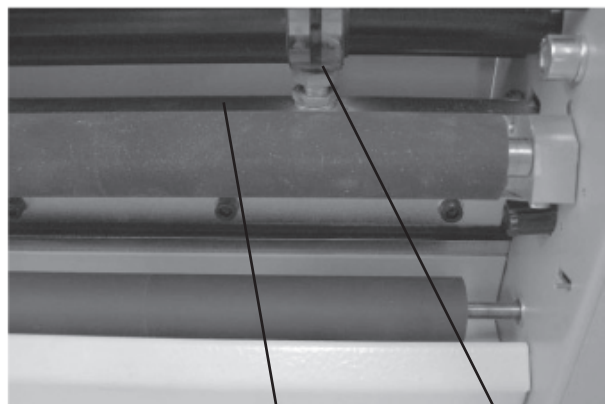

Fig. 13
2. After activating the “1 turn” icon, the control upstroke is carried out. If the crease depth is not the same on both sides of the paper or the perforation does not result in direct separation of the paper, the ram can be adjusted with a perforation knife (fig. 13). This is done by using the adjusting screws. It is necessary to loosen the screws gradually by 1/6 of a turn (60°) to the left (slide goes down), then secure it with a nut. You should check the quality of perforation after each turn (60°). Continue until the desired quality is achieved. After the machine is adjusted for perforation, it is adjusted for creasing as well.